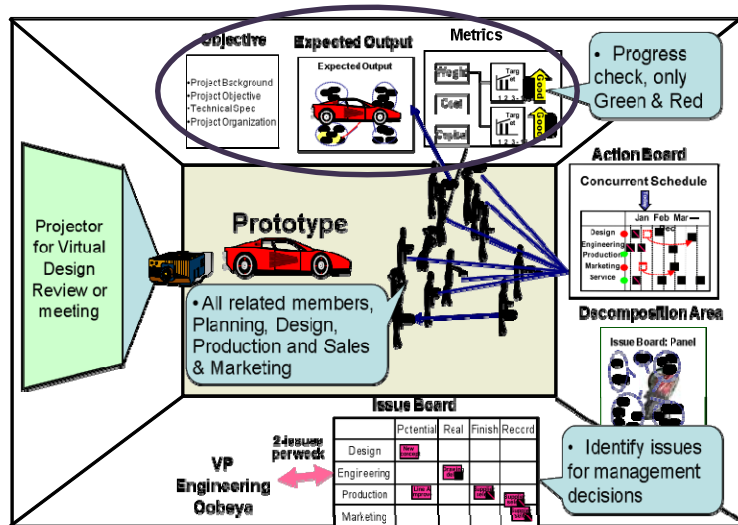

Figure 1, Oobeya (with Quality Portion Highlighted)
The oval on Figure 1 highlights the starting point for the flow within the oobeya. The visualization of the organizational purpose is where it all begins. This paper will highlight that “purpose portion” of the oobeya and show its application in Product Development (PD) environment and beyond. Within PD, a project leader uses a single A4 sheet of paper to depict visually the overall objectives of the new product. Then, each major department or sub-organization within the project breaks down that vision or purpose into a meaningful structure for their particular components or application, again using a single sheet of paper. These depictions must include the planned improvements in both products and processes that will achieve the project’s overall objectives. These individual depictions are called “barashi.” Loosely defined, barashi means “the visualization of purpose.” (In Japanese, the word more closely means “the elaboration of scenario.”) Teams must determine and visualize their primary solution by which they will advance the overall effort to achieve the project objectives. Ideally, they will also include alternate scenarios to capture secondary approaches to be considered if the primary design was unsuccessful.